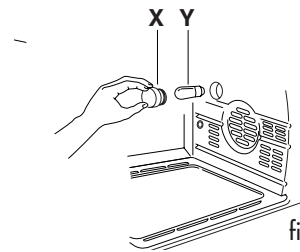

fig. 12
- Unscrew the protective glass cover (X), by turning it anti-clockwise, and replace the bulb (Y) with a new one of the same type (see Fig. 12). Replace the protective glass cover (X).